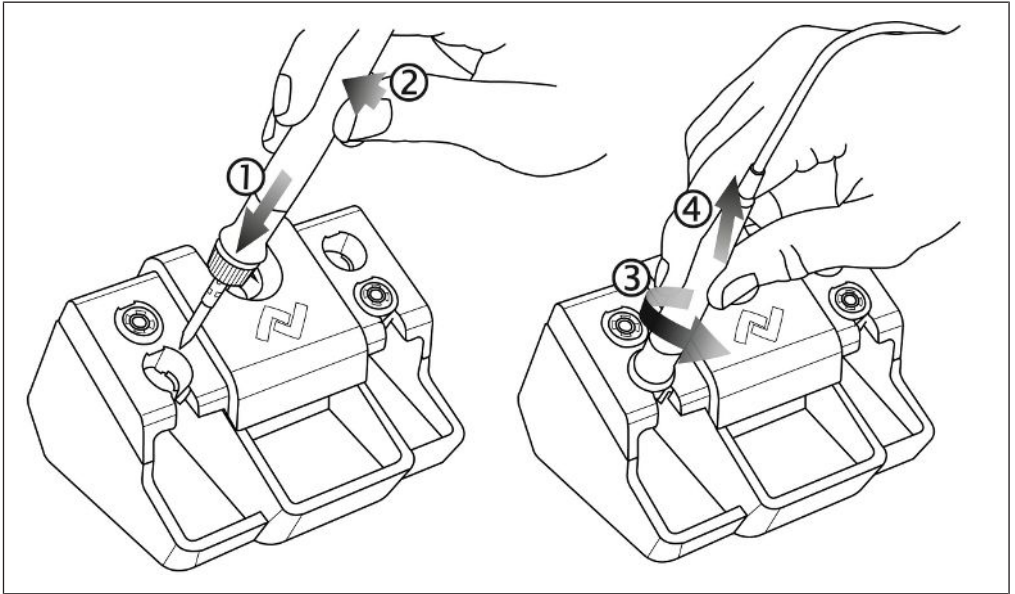

Fig. 15: A soldering tip can be stored in four steps
- a) Figure 15 on the left: Insert the soldering iron all the way into the changeable funnel [1], then tilt the soldering iron slightly away from you [2].
- b) Figure 15 on the right: Turn the soldering iron anti-clockwise as far as it will go [3], then tilt the soldering iron slightly away from you and pull it out of the soldering tip [4].